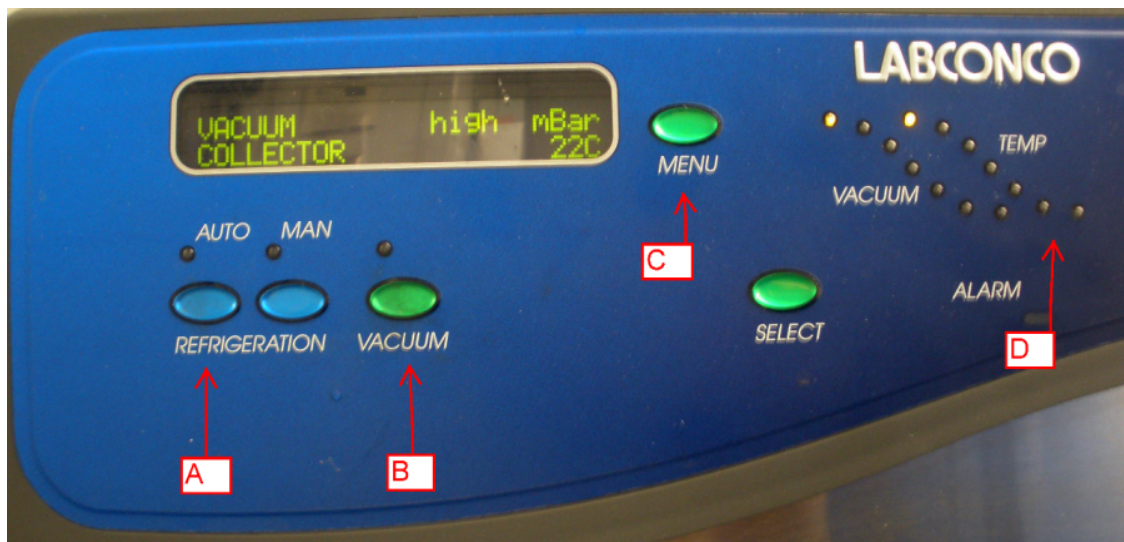

Figure 6. Freeze dryer control panel.
4. Set the freeze dryer to resemble the settings shown in *Figure 6* and flip the "On" switch located on the right side of the machine.